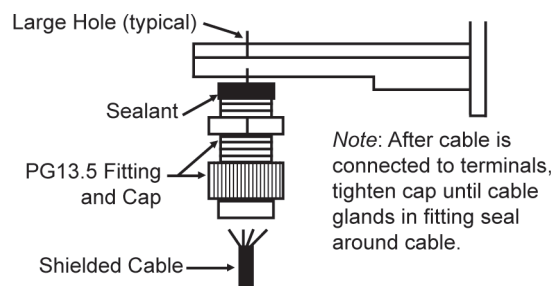

Figure 3-14. Inserting Shielded Interconnect Cable Through PG13.5 Fitting and Cap.
1. Remove the junction box cover. For a conduited installation, install a conduit fitting in the large hole in the bottom of the junction box. For a non-conduited installation, See Figure 3-14. Spread a generous bead of sealant around the sides of the PG13.5 cable fittings. Install the fittings in the two large holes in the bottom of the junction box.